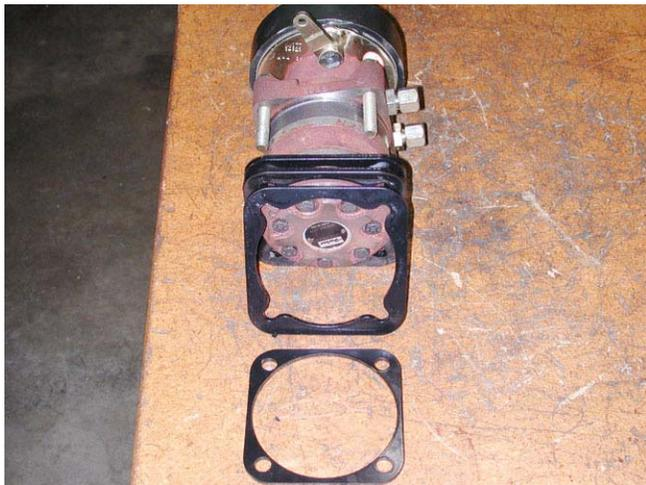

Figure 6.16
- 6.16. Withdraw the hydro motor, along with the three motor spacers, and place them gently on a work bench. See Figure 6.16.